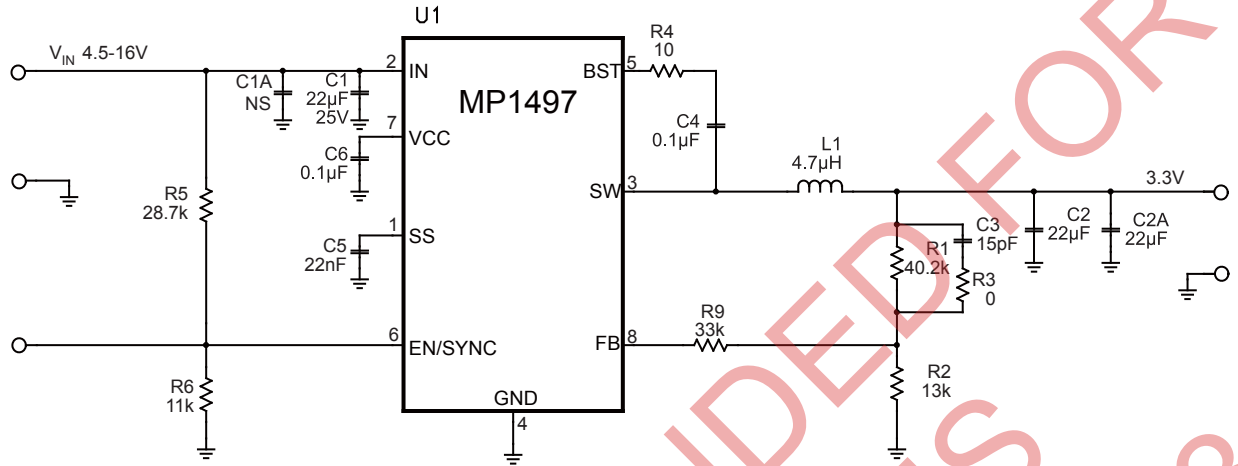

Figure 6: 12V_{IN}, 3.3V/3A
- 8) The recommended layout is based on the Figure 6 Typical Application circuit on the next page.